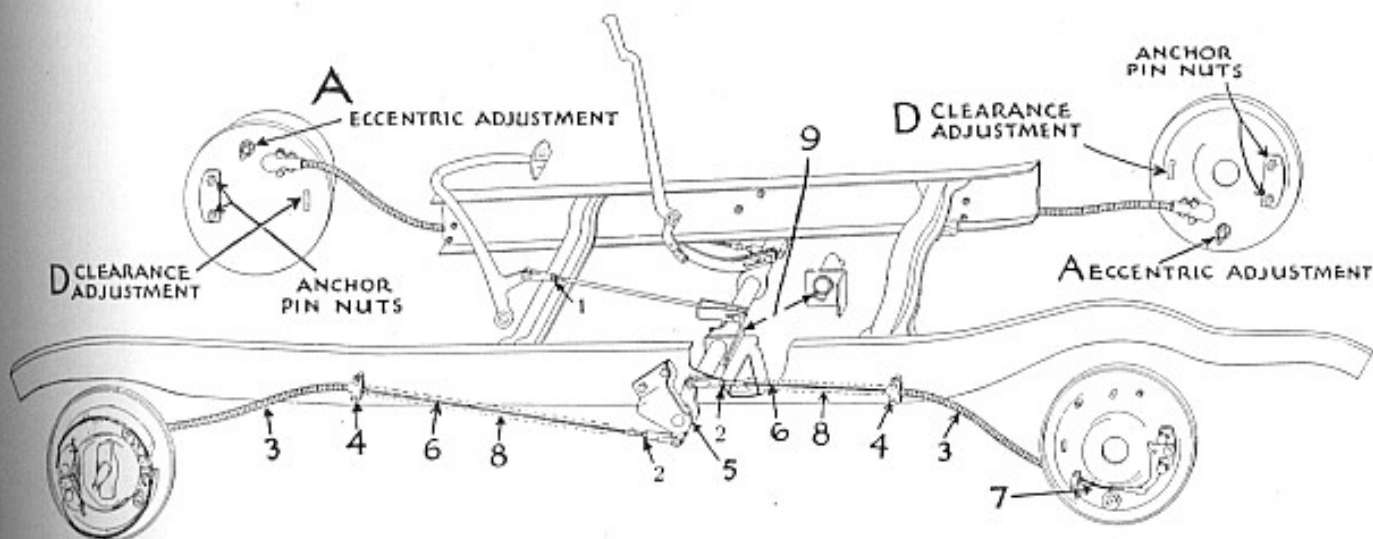

Fig. N28—Typical chassis linkage hookup using cable type controls. Dotted lines indicate section of cable which is in conduit during lubrication
A—Clean the exposed section of the 4 cables (6) with waste, or preferably a lintless wiping cloth. See Fig. N28, Page 55.